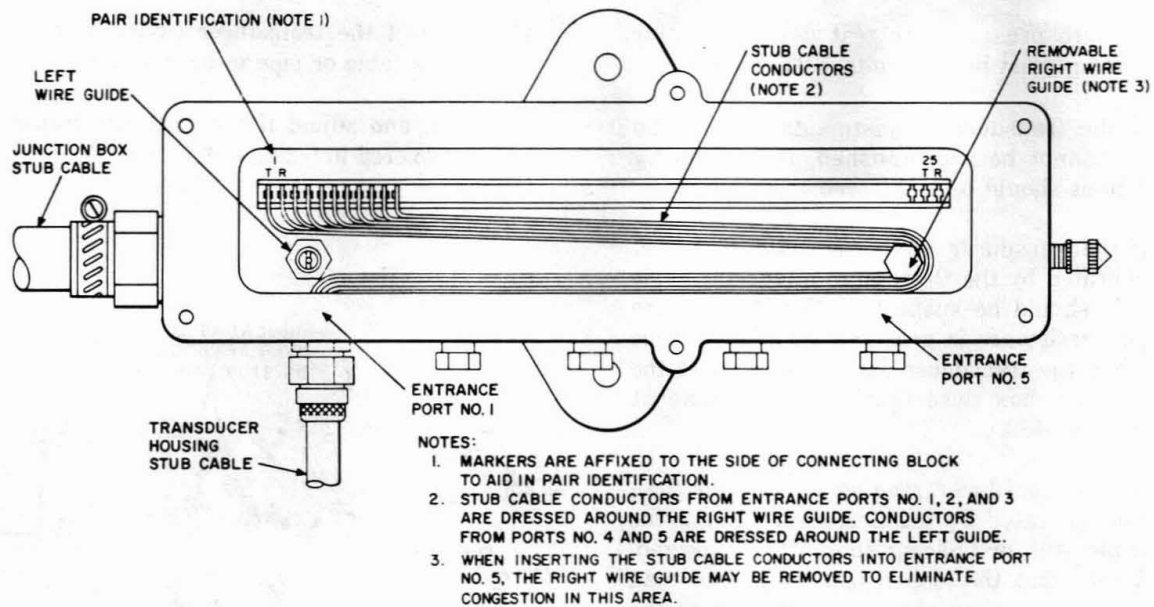

Fig. 12—Wiring Arrangement for C Junction Box
- (1) Route the stub cable conductors around the appropriate wire guide as explained and shown in Fig. 12.
- (2) Pair identification may be made using markers as shown in Fig. 12.
- (3) Slip each pair of conductors over the high tooth which is colored black and apply sufficient pressure to temporarily retain the conductors in their proper location.
- (4) Using the 788D2 tool, seat each pair into the connecting block.